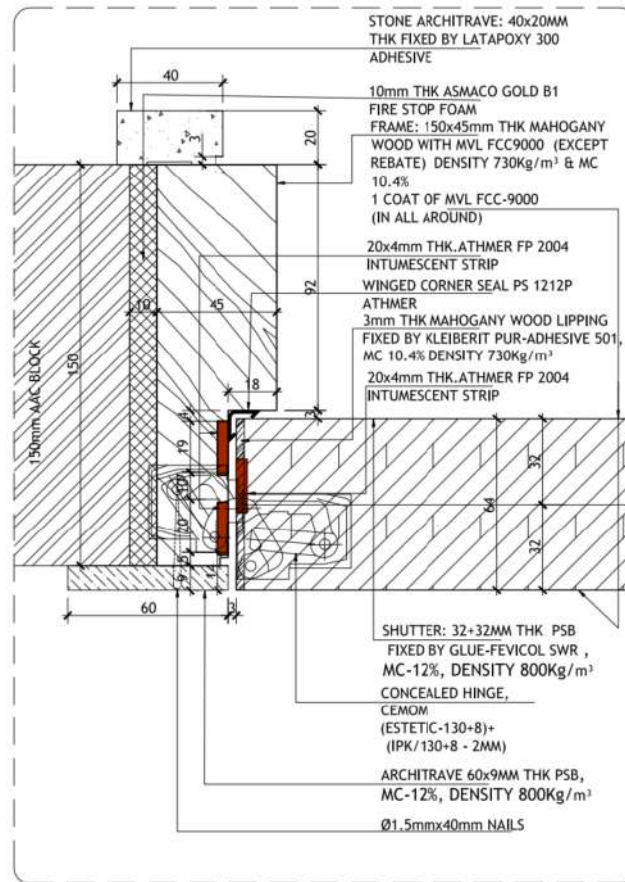

Figure 3. Vertical Jamb Details
The doorset consisted of a door frame with a cross-section of 150 x 45 mm, as shown in Figures 3 and 4. The frame was made of African Mahogany hardwood with a density of 730kg/m³ and a moisture content of 10.4% (declared by the client) and a density of 750kg/m³ (calculated by ESL certification). The door frame was manufactured by African Mahogany Wood and supplied by Danube Building Materials FZCO. The jambs and head of the door frame were joined at the corners using miter joints, secured with one (1) Ø6 x 48 mm long and one (1) Ø8 x 76 mm fine thread stainless steel drywall screws, manufactured by MT Werkz, positioned at each frame head. Additionally, the frame components were bonded together using wood glue (pH 5-7, specific gravity 1.1 kg/liter) produced by Ritver Paints & Coatings. A single coat of FCC-9000 Flame Core Coat, manufactured and supplied by MVL Fire Stop was applied to both the exposed and unexposed faces of the frame as well as the inner side, with the exception of the rebate.
The 40 x 20 mm architrave was installed on the closing side of the door frame jamb using 3 parts of Latapoxy 300 manufactured by LATICRETE South East Asia Pte Ltd. On the opening side of the door frame jamb, a 60 x 9 mm architrave was installed using four (4) Ø1.5 x 40 mm nails, spaced 740 mm apart from center to center. Additionally, the architrave was secured to the top of the frame using three (3) Ø1.5 x 40 mm nails on each side, positioned approximately 110 mm from each edge, along with an extra nail placed at the center, as shown in Figures 3 and 4.
The door leaf was constructed from a 64 mm thick Desert Board PSB FR, which featured 3mm thick African Mahogany wood lipping on all sides. The Desert Board PSB FR, produced by Al Talah Board Manufacturing Co. LTD, had a stated density of 800kg/m³ and a stated moisture content of 12%. It was composed of two (2) 32 mm layers that were bonded together using Fevicol SWR super synthetic resin adhesive, manufactured by Pidilite Industries. Additionally, a single coat of FCC-900 Flame Core Coat, produced and supplied by MVL Fire Stop, was applied to the entire leaf, as shown in Figure 3 and 4.
The 3 mm thick African Mahogany wood lipping, supplied by Danube Building Materials FZCO, had a density of 730kg/m³ and a moisture content of 10.4% (declared by the client) and a density of 750kg/m³ (calculated by ESL Certification). It was securely attached to the edges of the core using Kleiberit 501.0 PUR adhesive, manufactured by Klebchemie M.G Becker GmbH & Co., as shown in Figure 3 and 4.
- Two (2) 20 x 4mm thick intumescent seals (Athmer FP 2004- brown color), manufactured by Athmer, were installed 4mm and 34mm from the opening edge as shown Figures 3 and 4.
- A single winged corner seal (PS1212P – brown color) produced by Athmer has been installed on all three sides of the frame as shown Figures 3 and 4.
- One (1) 20 x 4mm thick intumescent seals (Athmer FP 2004- brown color), manufactured by Athmer, were installed 14mm from the opening edge as shown see Figures 3 and 4.
There is a 10mm gap between the door frame and the supporting structure. In the area where the hinges are positioned, an additional cutout measuring 40mm x 20mm has been made to facilitate the installation of the hinges. All gaps have been filled with Asmaco Gold Universal Multifoam (B1) Fire Retardant, which is manufactured by Asmaco and supplied by Anchor Allied Factory LLC. Additionally, Ø8 x 100mm self-tapping screws with Klimax plastic anchors were installed approximately 520mm apart, in six (6) vertical locations on both jambs as shown in Figure 3.